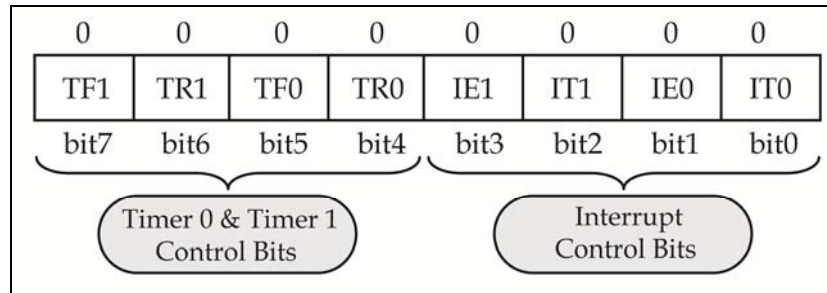

Fig. 1.8.3(b)
- Fig. 1.8.3(b) show the bits arrangement of TCON register.